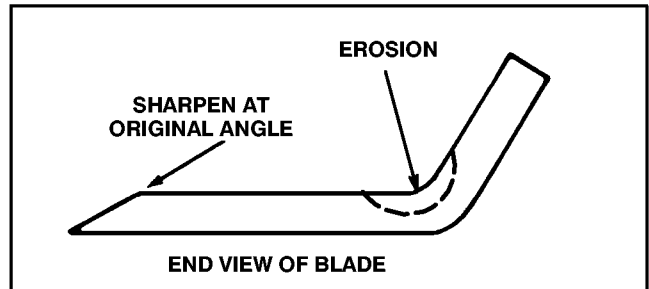

Figure 21
7. Using a file, sharpen the cutting edge at both ends of the blade (Fig. 21).
Check the cutter blade every time rider is tipped on end. If the blade bolt holding blade is loose, tighten it to 45-60 ft-lb (61-81 Nm). If blade or sail (Fig. 21) at end of blade is worn, eroded, or cracked, replace it. Replace the blade if it is bent. Always use genuine TORO replacement blades to ensure safety and best performance. NEVER USE WILL-FIT REPLACEMENT BLADES.